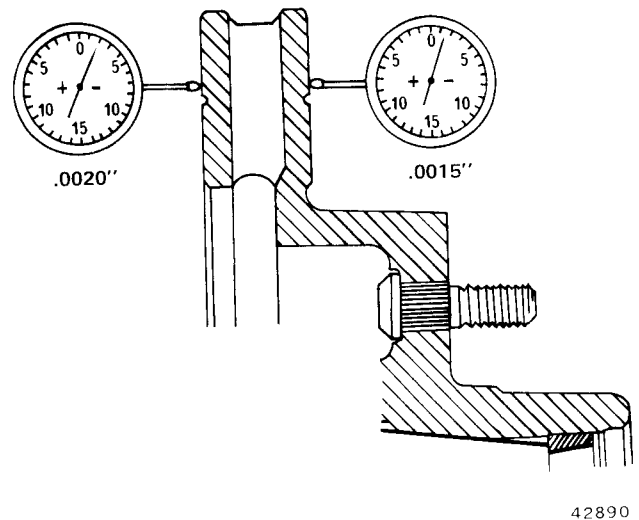

Fig. 9-40 Checking Thickness Variation
(3) Check Thickness Variation: Thickness of rotor, as measured at four or more equally spaced points, must not exceed 0.0005 inch. Thickness variations can cause pedal pulsation and vibration when applying brakes.
- (a) Check variation by measuring thickness of rotor at four or more equally spaced points around circumference of rotor (fig. 9-40). Use micrometer or two dial indicators to perform measurement and measure thickness at same distance in from edge of rotor at all points.